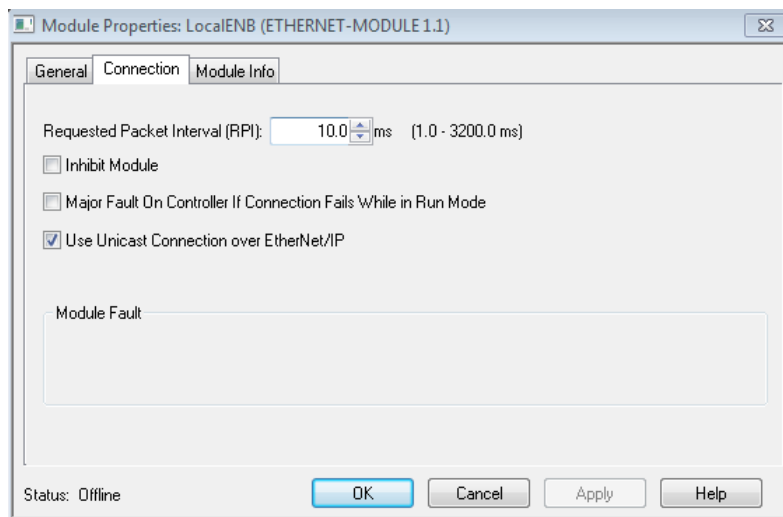

Figure 4-4: Setting Module RPI
5. The “New Module” window now appears as a “Module Properties: LocalENB” window with the Connection tab selected. Set the “Requested Packet Interval (RPI)” value to 20.0 ms (this can be reduced to 10.0ms when not using Workbench in combination with EtherNet/IP). If using firmware version 1.8 or higher, check the box “Use Unicast Connection over EtherNet/IP” if the option is available. For older versions of firmware leave this box unchecked. Click OK. (Figure 4-4: Setting Module RPI).